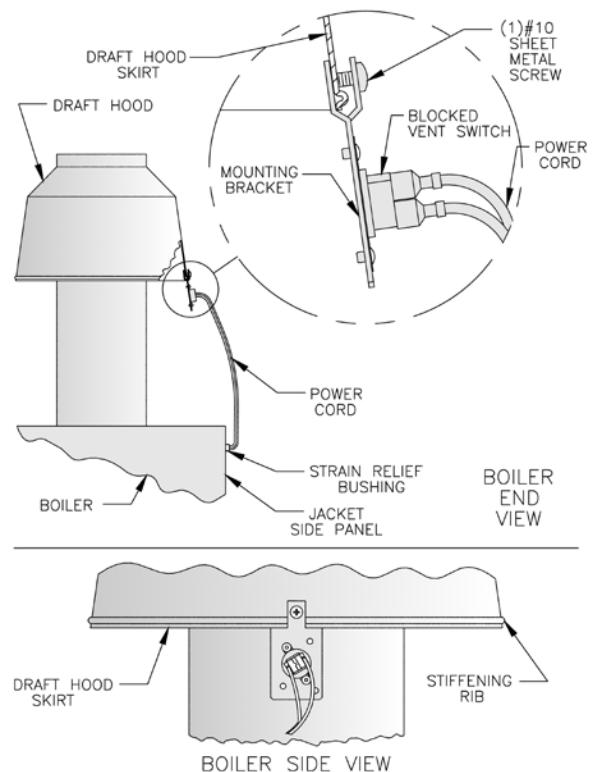

Figure 25: Blocked Vent Switch Installation
2. Position mounting bracket onto lower edge of Draft Hood skirt. Locate center tooth (with #10 sheet metal screw) on outside and other two teeth inside Draft Hood skirt. See Figure 25.
7. Verify power cord, mounting bracket, and Blocked Vent Switch are secure and located as shown in Figure 25.